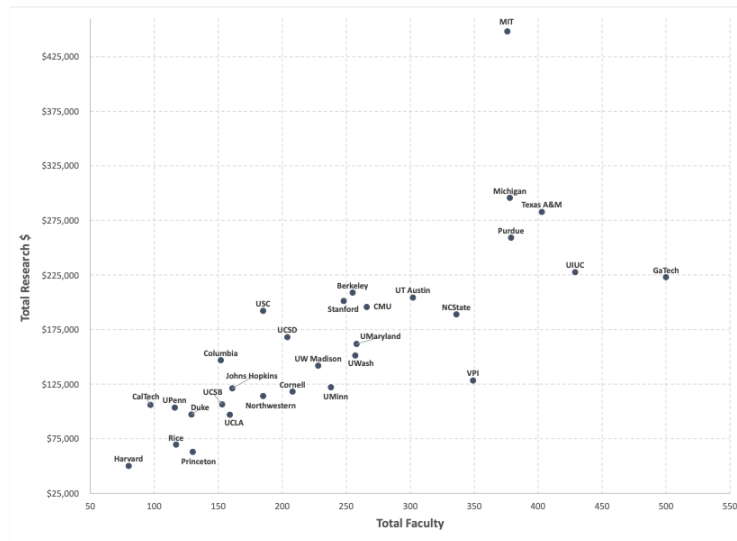

Figure 4.11 Plot of research expenditures (in millions of dollars) versus number of faculty for the top 30 graduate engineering programs
4.5 (Research expenditures data) Refer to Exercise 3.11 on modeling research expenditures of the top 30 engineering schools using the number of faculty and the number of PhD students as predictor variables. The two scatter plots are shown in Figures 4.11 and 4.12 with each data point labeled by the abbreviated name of the university. Identify the outliers and influential observations in the data using appropriate diagnostic statistics. Provide plausible explanations for why these universities are flagged.